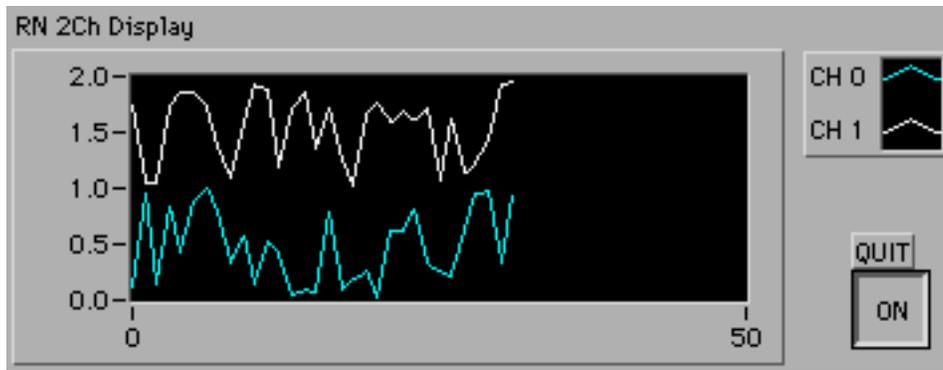

Figure P5.4
- 5.4** Using a **Waveform Chart**, display two channels of random numbers every 50 msec. One channel displays a random number between 0 and 1, and the other, between 1 and 2, in different color. Label the chart **RN 2Ch Display**, and adjust the y -axis scale to 0 and 2. Be sure to use the Attribute Node to refresh the screen whenever you execute the VI, and change the mechanical action and the default state of the Boolean switch **QUIT**. (Refer to Figure P5.4.) Also, label each channel **CH 0** and **CH 1** in the legend. Save the VI as **P05_04.vi**.